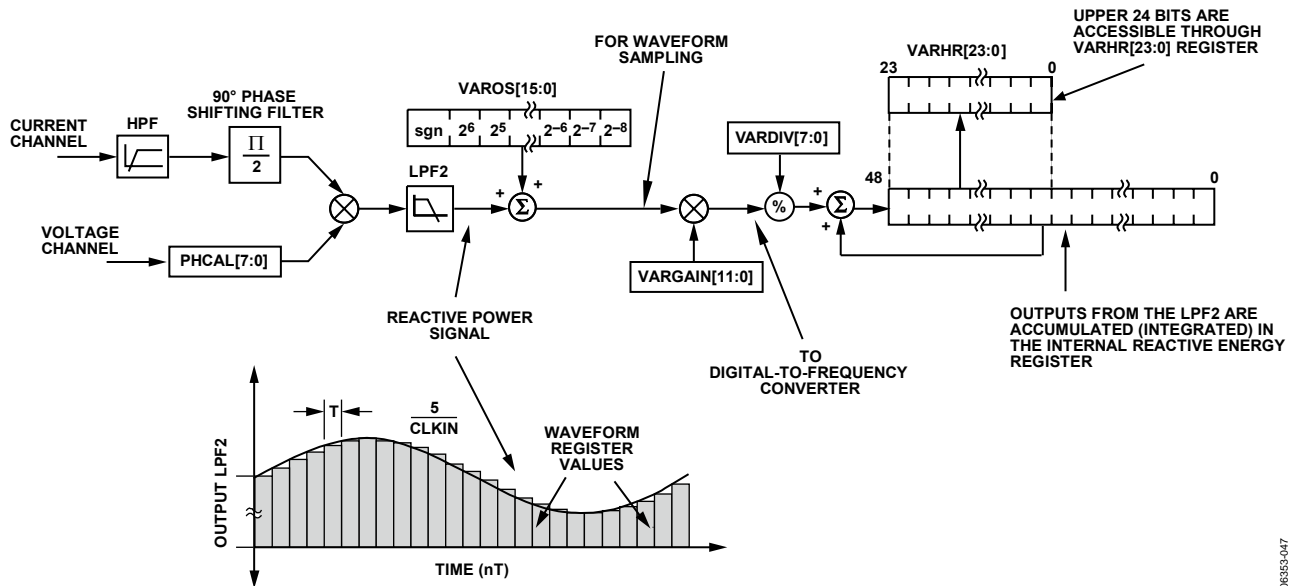

Figure 58.. Reactive Energy Calculation
The instantaneous reactive power signal $q(t)$ is generated by multiplying the voltage and current channels. In this case, the phase of the current channel is shifted by +90°. The dc component of the instantaneous reactive power signal is then extracted by a low-pass filter to obtain the reactive power information (see Figure 58).
Figure 58 shows the signal processing chain for the ADE7569 reactive power calculation. As explained in the Reactive Power Calculation for the ADE7569 section, the reactive power is calculated by applying a low-pass filter to the instantaneous reactive power signal. Note that when reading the waveform samples from the output of LPF2, the gain of the reactive energy can be adjusted by using the multiplier and by writing a twos complement, 12-bit word to the VAR gain register (VARGAIN[11:0]). Equation 25 shows how the gain adjustment is related to the contents of the watt gain register.
The ADE7569 also incorporates a reactive power offset register (VAROS[15:0]). This is a signed, twos complement, 16-bit register that can be used to remove offsets in the reactive power calculation (see Figure 58). An offset can exist in the reactive power calculation due to crosstalk between channels on the PCB or in the IC itself. The offset calibration allows the contents of the reactive power register to be maintained at 0 when no power is being consumed.
The discrete time sample period (T) for the accumulation register in the ADE7569 is 1.22 μs (5/MCLK). As well as calculating the energy, this integration removes any sinusoidal components that may be in the active power signal. Figure 58 shows this discrete time integration or accumulation. The reactive power signal in the waveform register is continuously added to the internal reactive energy register.
As shown in Figure 58, the reactive power signal is accumulated in an internal 49-bit signed register. The reactive power signal